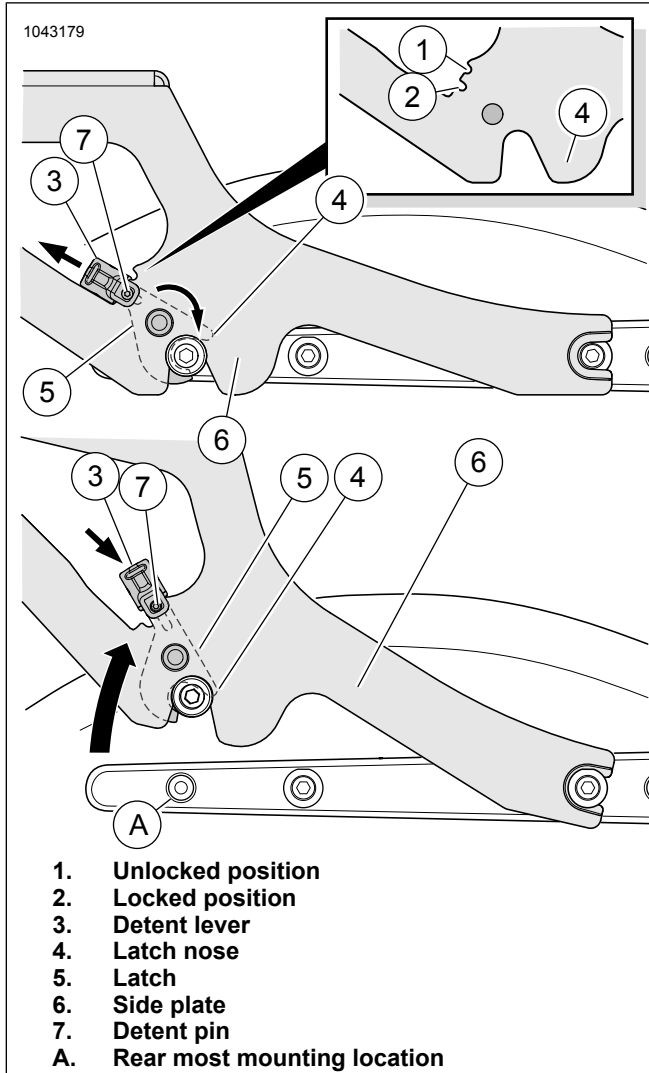

Figure 3. Detachable Two-Up Tour-Pak Mount Removal
1. See Figure 3. Remove OE screws. Right side remove rear most screw (A).
1. See Figure 3. Pull both detent levers (3) rearward from the locked position (2), against the compression spring (8).